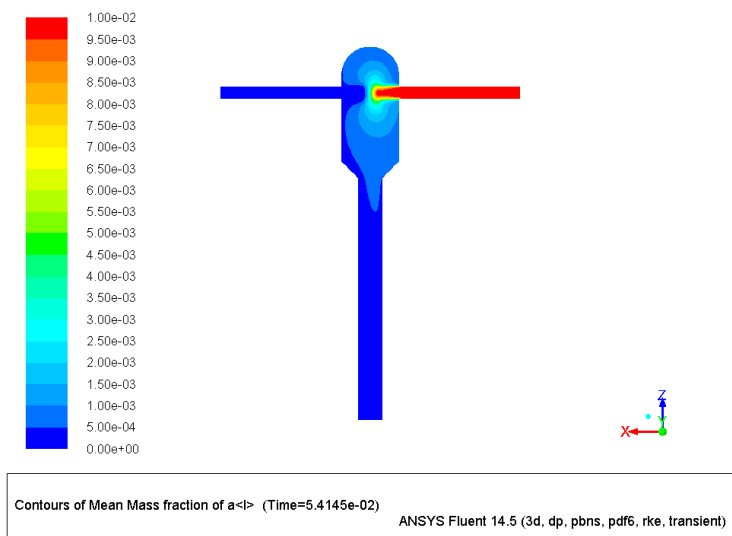

Figure 13: Contours of Mean Mass Fraction of a<|>
- (b) Click Display (see Figure 13).